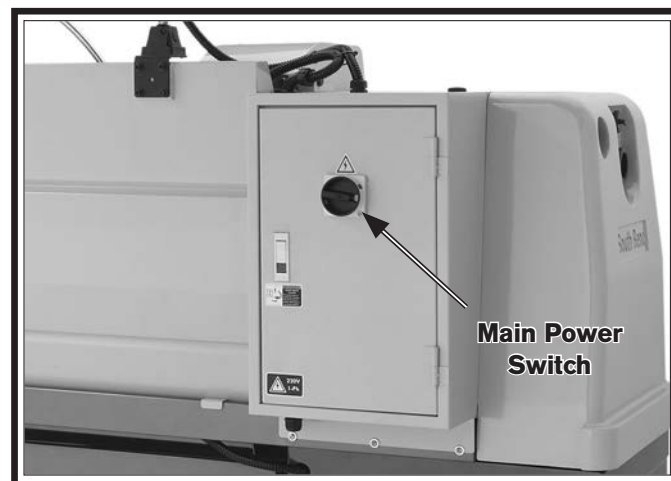

Figure 21. Location of the master power switch.
1. Make sure the master power switch (see **Figure 21**) on the rear of the machine is turned **OFF**.